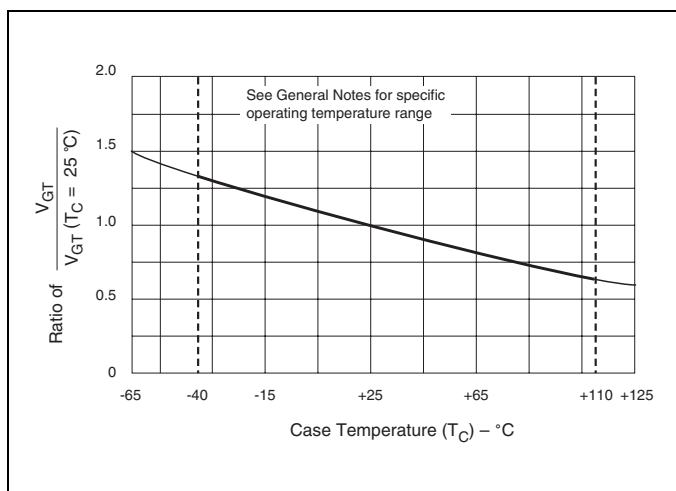

Figure E5.12 Normalized DC Gate-Trigger Voltage versus Case Temperature
- (4) See Figure E5.12 for V_{GT} versus T_C or T_L.